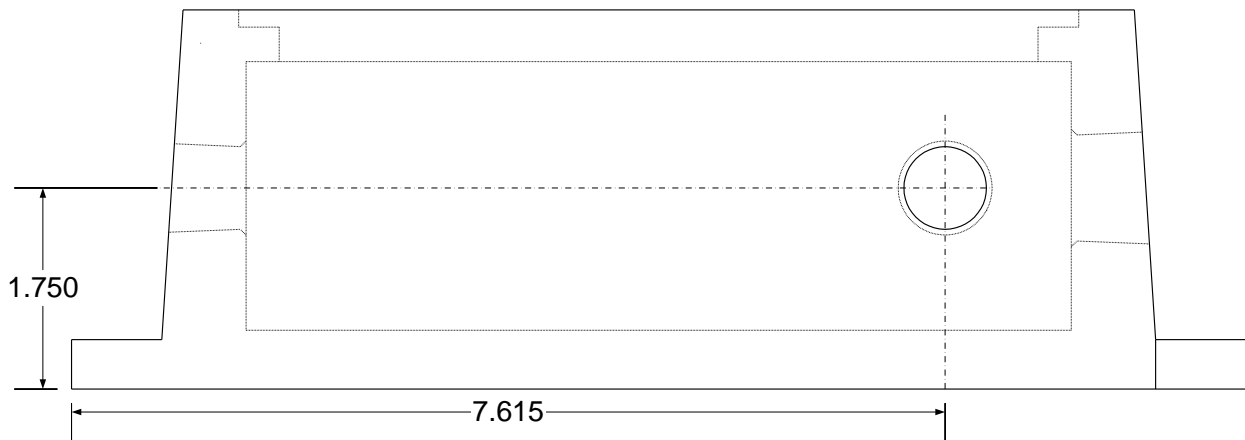

Figure 4 – Power Supply 1/2" Conduit Entry on Right Side
- Figure 4 – Power Supply ½” Conduit Entry on Right Side7